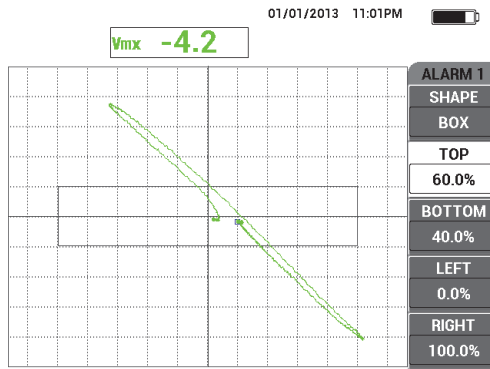

Figure 5-60 The Alarm parameters
1. Depending on your requirements, set the alarm parameters, horn, or external horn (louder). For more details about alarms, see “Alarm Menus” on page 298. The alarm parameters shown Figure 5-60 on page 171 in can be used as **NEGATIVE** Box alarm.